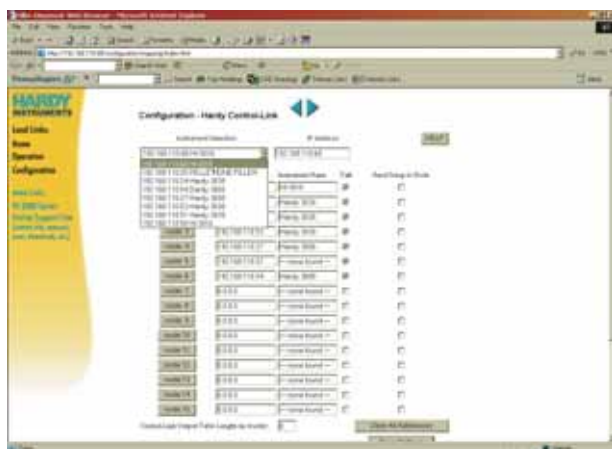

FIG. 101: CONFIGURATION - HARDY CONTROL-LINK/INSTRUMENT SELECTION PULL DOWN LIST
- Step 3. If other HI 3000 Controllers are attached to the Hardy Control-Link Network, you can view their IP addresses by clicking on the “Instrument Selection” pull down list. All connected devices are listed. (See Fig. 101)